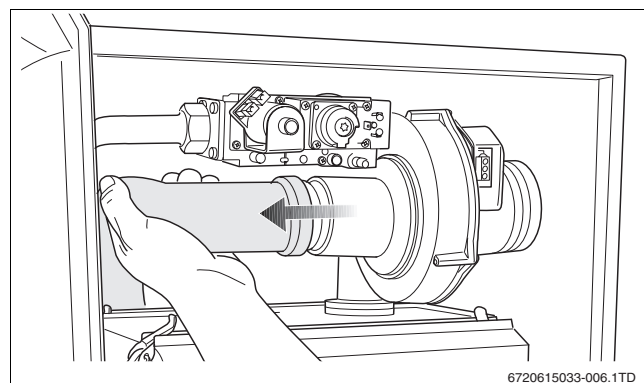

Fig. 5 Pulling the air suction tube from the fan
- Pull the air suction tube from the fan (→ fig. 5).